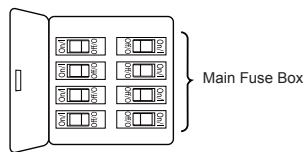
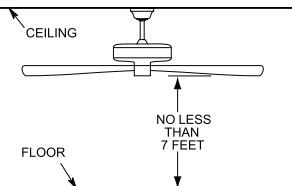
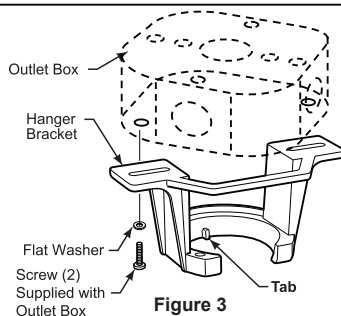

Figure 1
Figure 2
Figure 3
Your new ceiling fan will require a grounded electrical supply line of 120 volts AC, 60 HZ, 15 Amp Circuit. Electrical code requires use of a fan-rated outlet box to support the extra weight and motion associated with a ceiling fan. A fan-rated box will be labeled as such and typically supports up to a 70lb ceiling fan. Fan-Rated Outlet Boxes vary in ratings and design. Ensure the ratings of your ceiling fan outlet box meet the requirements for the ceiling fan being installed. Figure 1, Figure 2 and Figure 3 depicts different structural configurations that may be used for mounting the outlet box.
Low profile box (Figure 1)
Deep box (Figure 2)
Deep box with brace (Figure 3)
1. Remove the hanger ball portion from the downrod/hanger ball assembly by loosening the set screw in the hanger ball until the ball falls freely down the downrod. Remove the pin from the downrod, then remove the hanger ball. Retain the pin and hanger ball for reinstallation in Step 7. (Figure 1)
2. Remove the hairpin clip and clevis pin from the bottom of the downrod. Retain the pin and clip for reinstallation in Step 5. (Figure 2)
3. Remove the three stabilizer tabs and plastic bag from the motor. Discard the stabilizer tabs. (Figure 3)
To avoid possible fire or shock, be sure electricity is turned off at the main fuse box before hanging. (Figure 1)
The fan must be hung with at least 7' of clearance from floor to fan blades. (Figure 2)
1. Securely attach the hanger bracket to the outlet box (not included) using the outlet box screws and washers supplied with the outlet box. (Figure 3)
1. To set the code on receiver unit, slide dip switches to the same positions as set on the remote control. (Figure 1)
To avoid possible electrical shock, be sure electricity is turned off at the main fuse box before wiring. (Figure 2)
2. Slide the receiver into the hanger bracket before wiring as shown in figure 3.
- ☐ 1. Assemble canopy by rotating key slot in canopy over shoulder screw in hanger bracket, taking care not to pinch the wires. Tighten shoulder screw. Fully assemble and tighten second shoulder screw that was previously removed. (Figure 1)
- ☐ 2. Securely attach and tighten the canopy screw cover over the shoulder screws in the hanger bracket utilizing the key slot twist-lock feature. (Figure 2)
- ☐ 1. Carefully slide the blade through the slot as shown. Securely fasten the seven blades with serrated head screws with flat washers. Do not over-tighten. (Figure 1)
- ☐ 1. Remove one of the three screws in the support bracket at the bottom of the motor assembly. Retain the screw for later and slightly loosen the remaining two screws. (Figure 1)
- ☐ 2. Assemble the light kit to the support bracket using the two key slots in the light kit. Replace the previously removed screw and securely tighten all three screws. (Figure 2)
- ☐ 3. Remove one of the three screws in the light kit. Retain the screw for later and slightly loosen the remaining two screws. (Figure 3)
- 1. **IMPORTANT:** Using a full range dimmer switch (not included) to control fan speed will damage the fan. To reduce the risk of fire or electrical shock, do not use a full range dimmer switch to control the fan speed. (Figure 1)
- 2. Restore electrical power to the outlet box by turning the electricity on at the main fuse box. (Figure 2)
- 3. Remove the battery cover from remote control by screwdriver and retain the screw for later. (Figure 3)